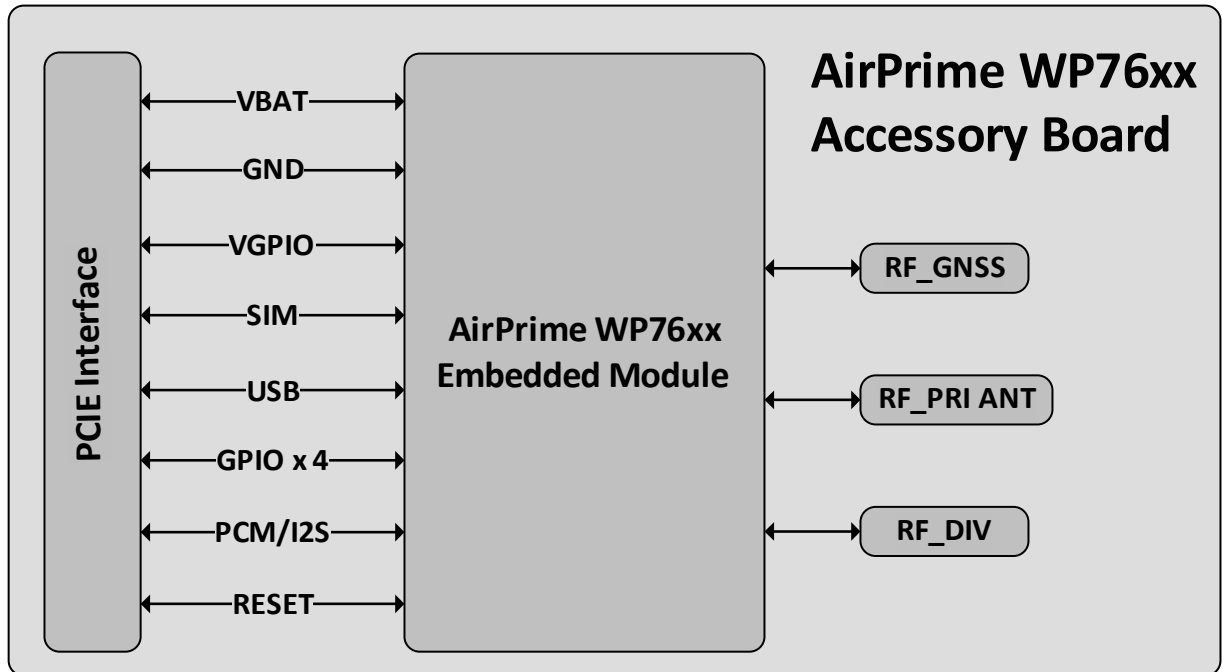

Figure 2-1: Accessory Board Architecture Overview
- Use Hirose U.FL connectors (3 mm x 3 mm, low profile; model U.FL #CL331-0471-0-10) to attach antennas to connection points on the module, as shown in Figure 2-1.